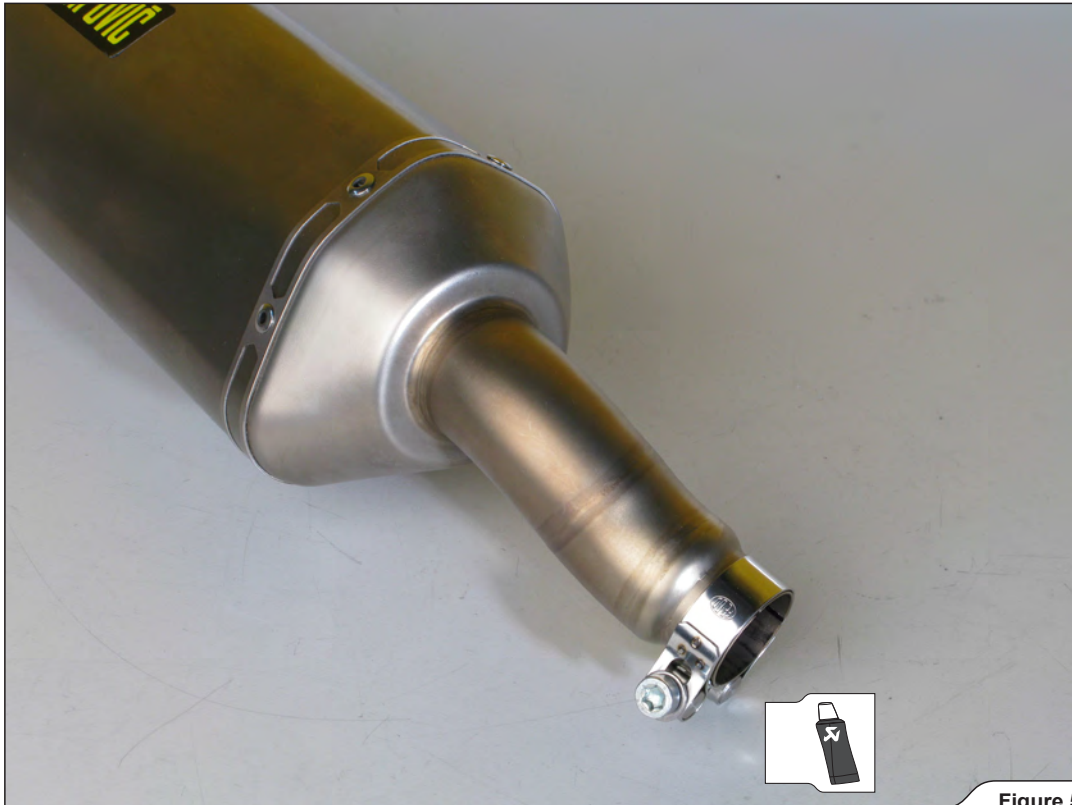

Figure 5
2. Assemble the clamp from Akrapovič installation kit onto the muffler's inlet pipe, as shown (Figure 5).